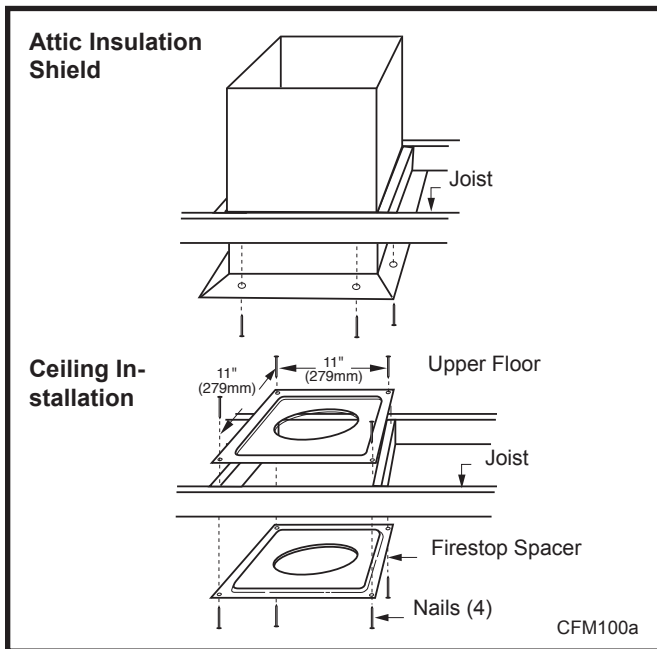

Fig. 33 Place firestop spacer(s) and secure.
6. Place firestop(s) #7DVFS or Attic Insulation Shield #7DVAIS into position and secure. (Fig. 33)